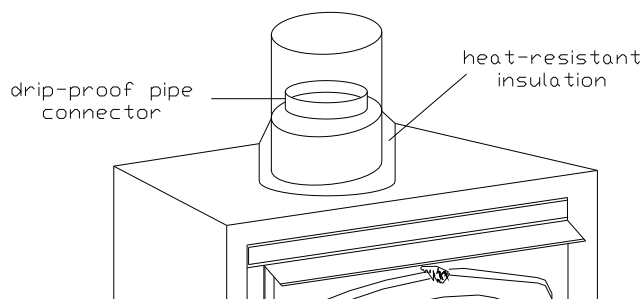

FIGURE 9
Use one layer of insulation for double wall pipe and two layers for triple wall pipe (FIGURE 9).
B) Attaching chimney to Gemini XL unit (FIGURE 9). A solid fuel chimney must make a positive connection to the drip proof pipe connector at all points along the base of the pipe connector for proper installation.